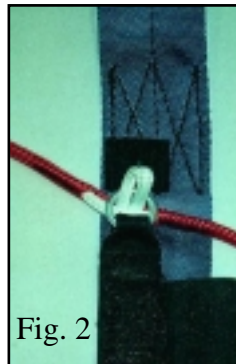

Fig. 2
**Step Two:** Thread the brake set loop through the riser guide ring as shown in fig. 2.